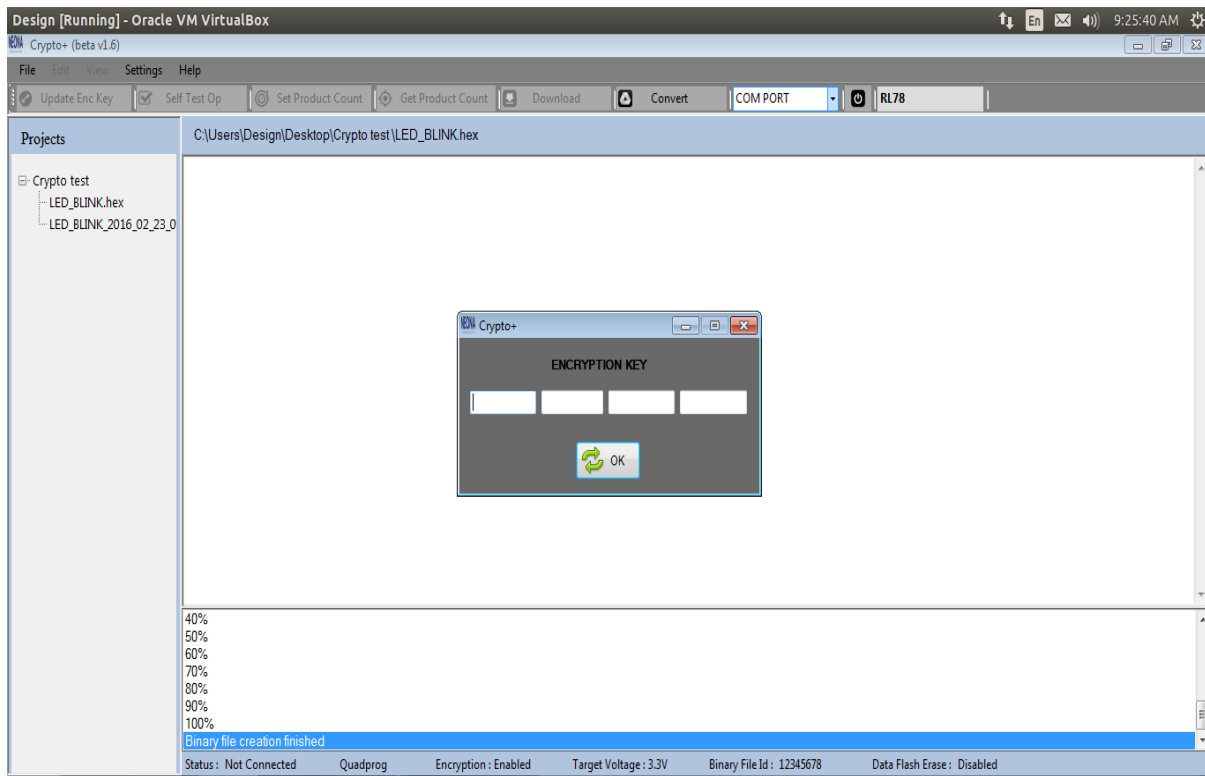

Figure 2.26
STEP 4: If encryption is enabled then after the .bx file creation, encryption key is asked as shown in figure 2.26. Enter the 16 digit encryption key and click OK button.